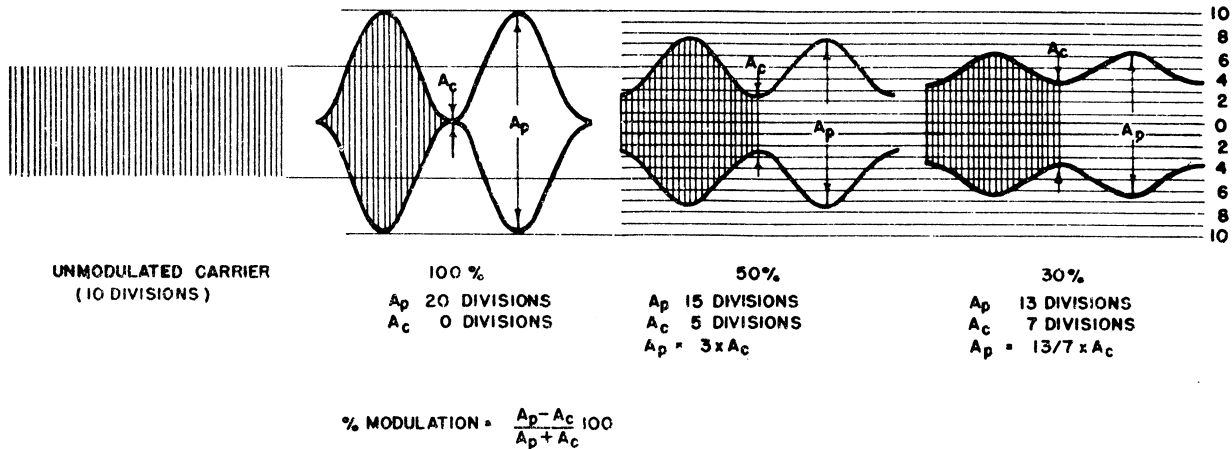

Figure 6-10. Percentage Modulation Chart
(See figure 6-10)
(1) Set carrier frequency at 100 kc.
(2) Set METER READS switch (S-102) to the % MOD. position.
(3) Set MOD SELECTOR switch (S-103) for 400 cycles per second.
(4) Set CARRIER RANGE switch (S-107) to the "10 kc-230 kc" position.
(5) Feed the output from the X MULT RF OUTPUT jack (J-102) to the vertical input of a test oscilloscope.
(6) Place a graduated celluloid screen over the face of the oscilloscope.
(7) With the MULTIPLIER dial (I-104) and MICROVOLTS control (R-155), adjust the modulated signal amplitude to cover approximately 75 per cent of the face of the oscilloscope.
(8) Adjust the % MODULATION control (R-111) on the front panel until 50 percent modulation is indicated on the oscilloscope (See figure 6-10.)
(9) Adjust the Mod Sens control (R-134) until the
MODULATION DIODE.	<ol style="list-style-type: none"> 8. If the meter still does not respond to the % MODULATION control, feed the output signal from the X MULT RF OUTPUT jack (J-102) to a test oscilloscope. Set the carrier frequency at 100 kc. Place the METER READS switch (S-102) in the RF position. Advance the CARRIER CONTROL (R-123) in a clockwise direction until a reading of "50" is obtained on the upper meter scale. With the external modulation applied as in par. 7 above, the modulated pattern should appear on the oscilloscope (see figure 6-10). If it does, the trouble was in the modulation diode circuit.